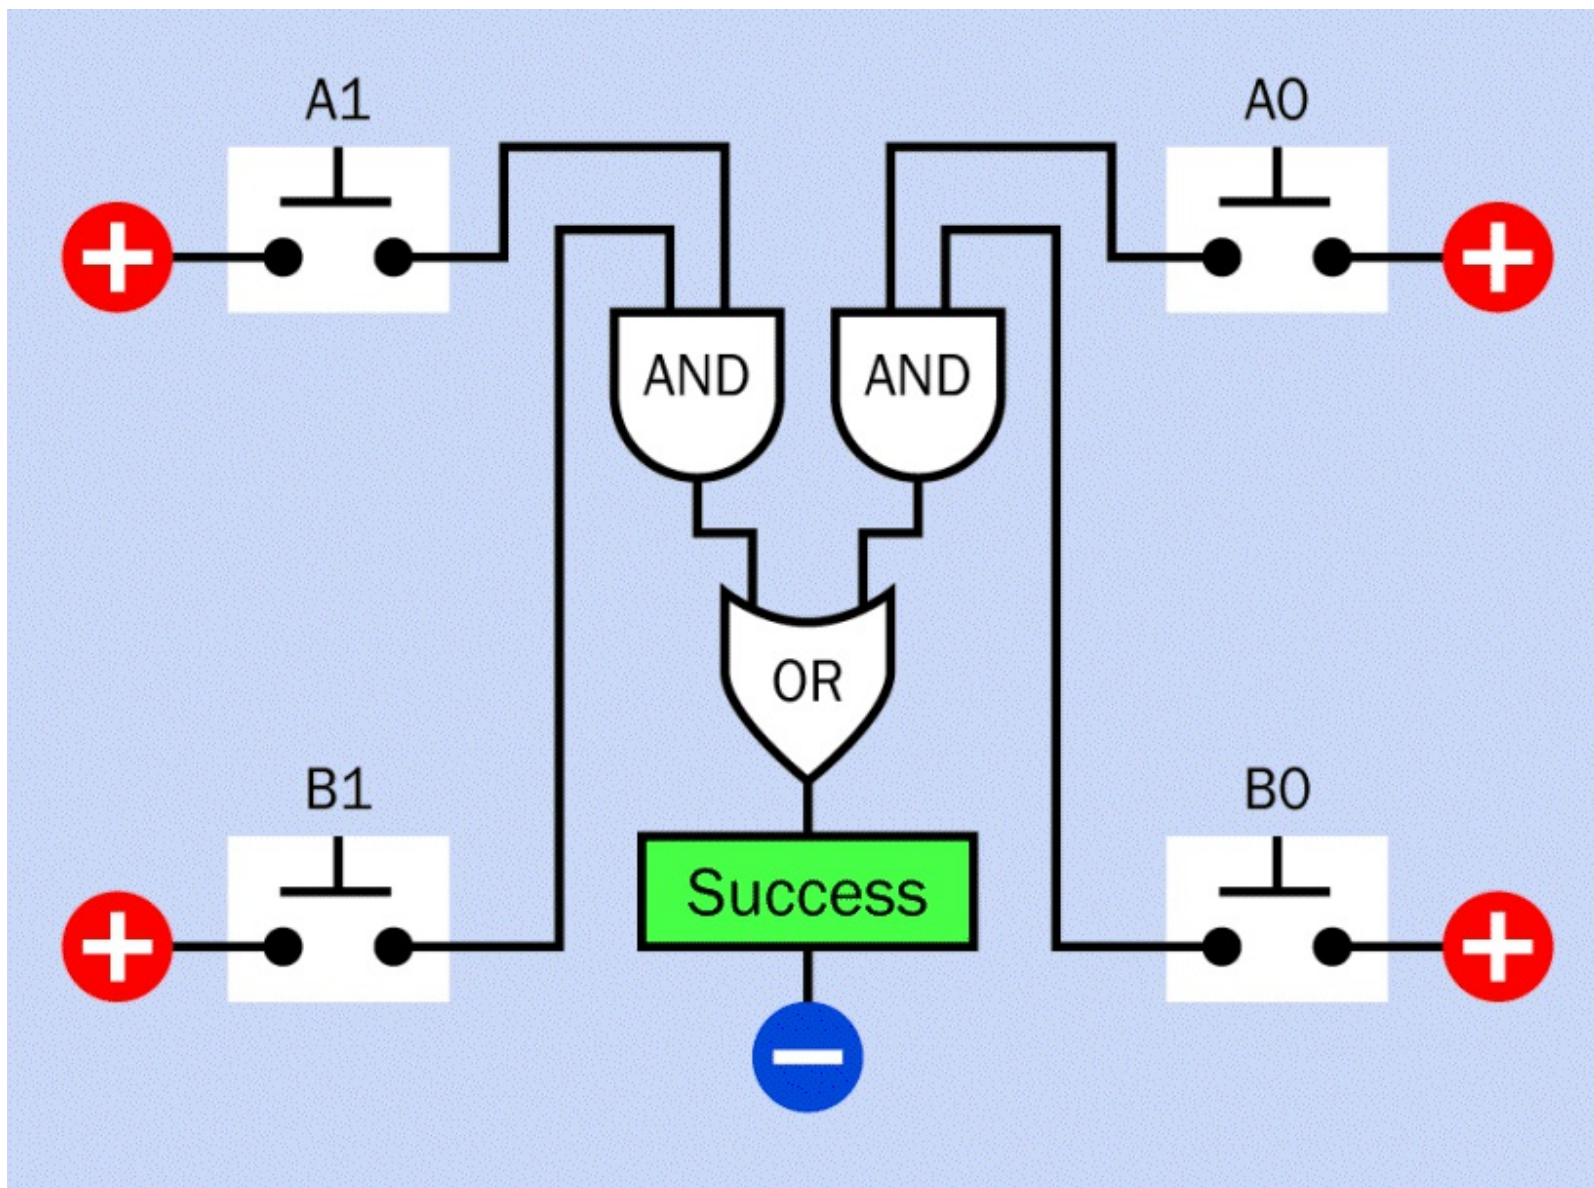

Figure 15-2. These logic gates will activate a "success" indicator if A0 and B0 are both pressed, or if A1 and B1 are both pressed.
Figure 15-2 shows how AND and OR logic gates can be used with the pushbuttons to confirm that a trial has been successful.
- A logic diagram is not the same as a component schematic. In a logic diagram, such as the one shown in **Figure 15-2**, power supplies to logic gates are not usually shown, and pullup or pulldown resistors are also omitted. In a component schematic, chips with pin connections are shown instead of logic gates, and all necessary power connections are included.
The concept of **Figure 15-2** is very simple. It can be summarized in this sentence:
The schematic that corresponds with the logic diagram in Figure 15-2 is shown in Figure 15-8. I have squeezed some miniature representations of the gates into the chips to show what's going on. "&" denotes an AND gate, while "O" is an OR gate. (These are not standardized abbreviations.)
Figure 16-1 translates these two sentences into a logic diagram. For the sake of clarity, I have shown this separately from the previous logic diagram in Figure 15-2. However, the two diagrams could be combined, as shown in Figure 16-2, because you can take the output from a single pushbutton and share it among two or more logic inputs. (In Figure 16-2 I have showed the connections from Figure 15-2 in gray, to distinguish them from the new connections.)